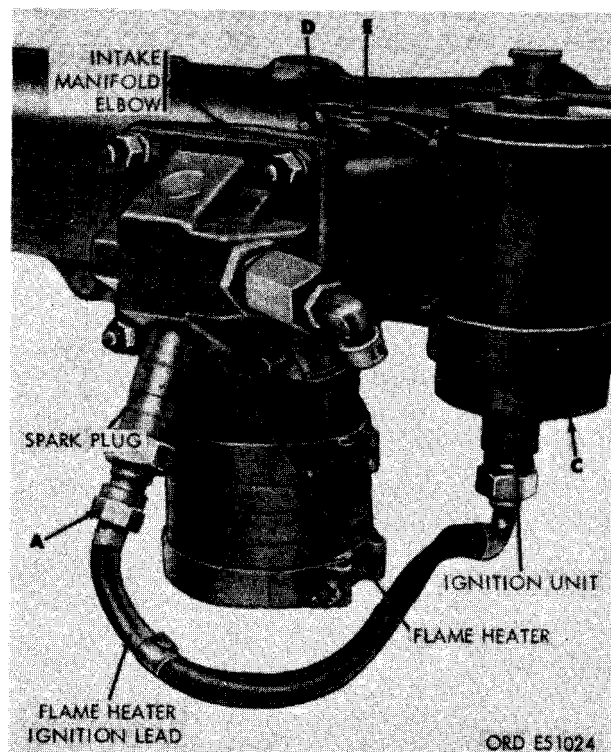

FIGURE 176. REMOVING OR INSTALLING INTAKE MANIFOLD ELBOW WITH FLAME HEATER INSTALLED.
- (2) Figure 176. (A) Disconnect flame heater ignition lead from spark plug. (B) Remove two 5/16-inch plain nuts and 5/16-inch lock washers securing the two clamps which hold ignition unit to intake manifold elbow. (C) Remove ignition unit with clamps and flame heater ignition lead. (D) Remove two 5/16-inch plain nuts and 5/16-inch lock washers securing intake manifold elbow to intake manifold. (E) Remove elbow with attached intake manifold flame heater assembly.